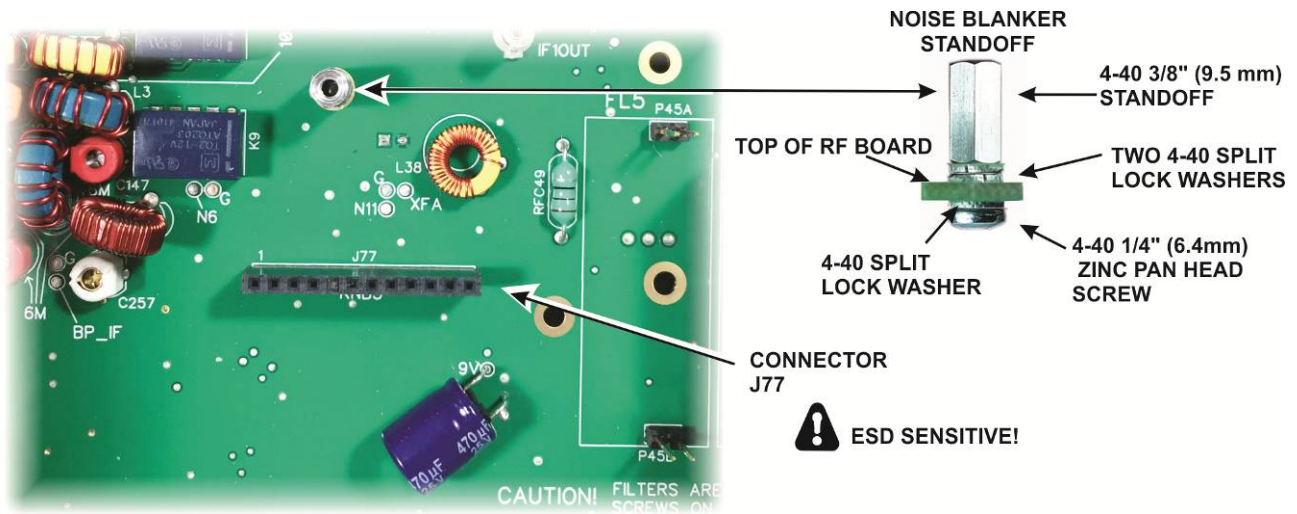

Figure 88. Installing Noise Blanker Standoff.
- ☐ Install the standoff for the noise blanker as shown in Figure 88. The location of J77 is to the left of crystal filter position FL5 on the RF board. Be sure to put *two* split lock washers between the standoff and the RF board as shown.